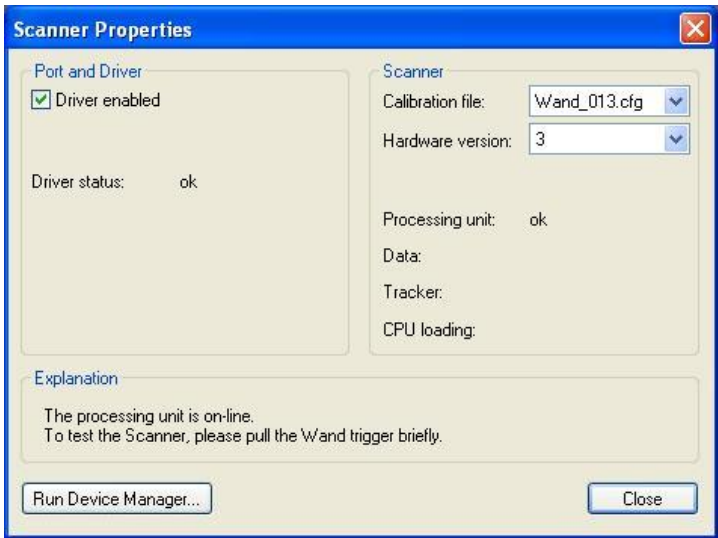

Figure 4: The **Scanner Properties** dialog box.
5. When setting up the system for the first time or changing Wands open the **Scanner Properties** box (Figure 4) via **Scanner/Properties...**